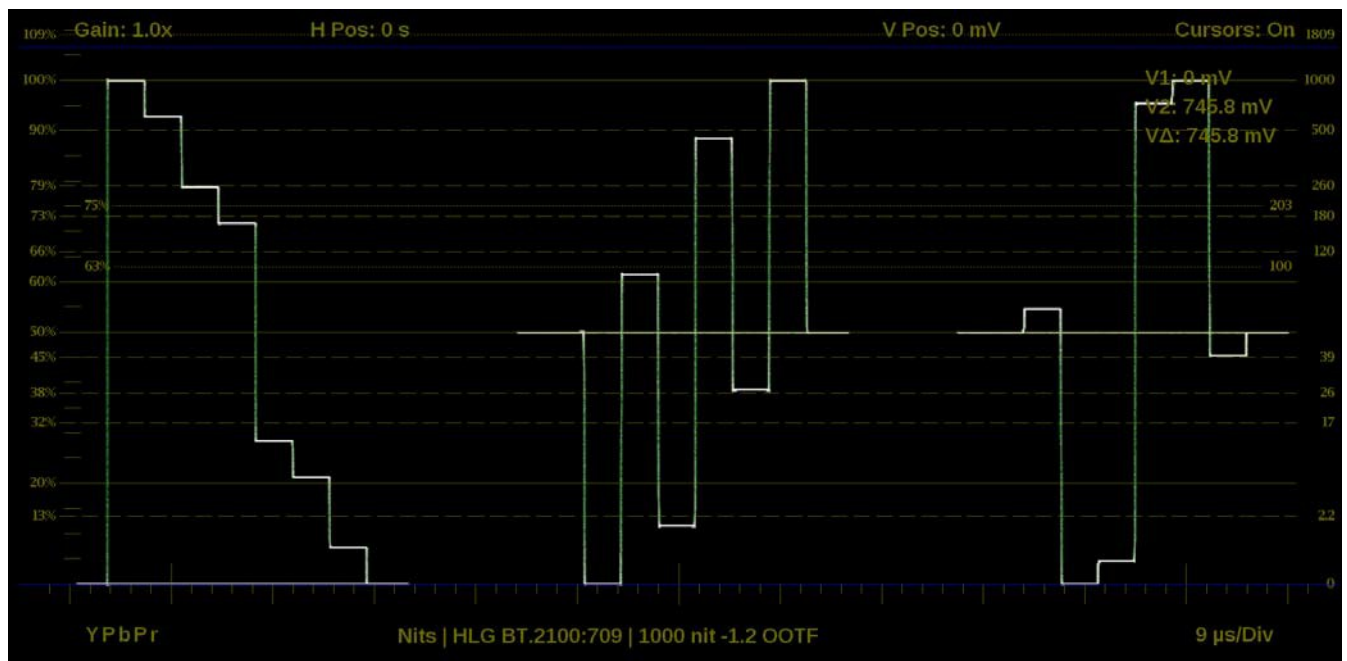

Figure 45: Waveform display with nits scale
- The **Nits** graticule varies depending on the Gamma selection in Input Settings menu. This is the Display light graticule and is used for mastering the content for a targeted HDR system. (See Figure 45.)